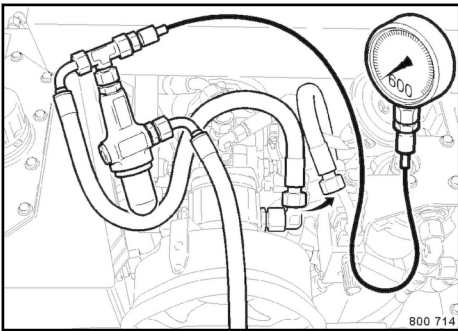

Fig. 130
9. Close the pump outlet ↗ Fig. 130 with a 200 bar pressure limiting valve.